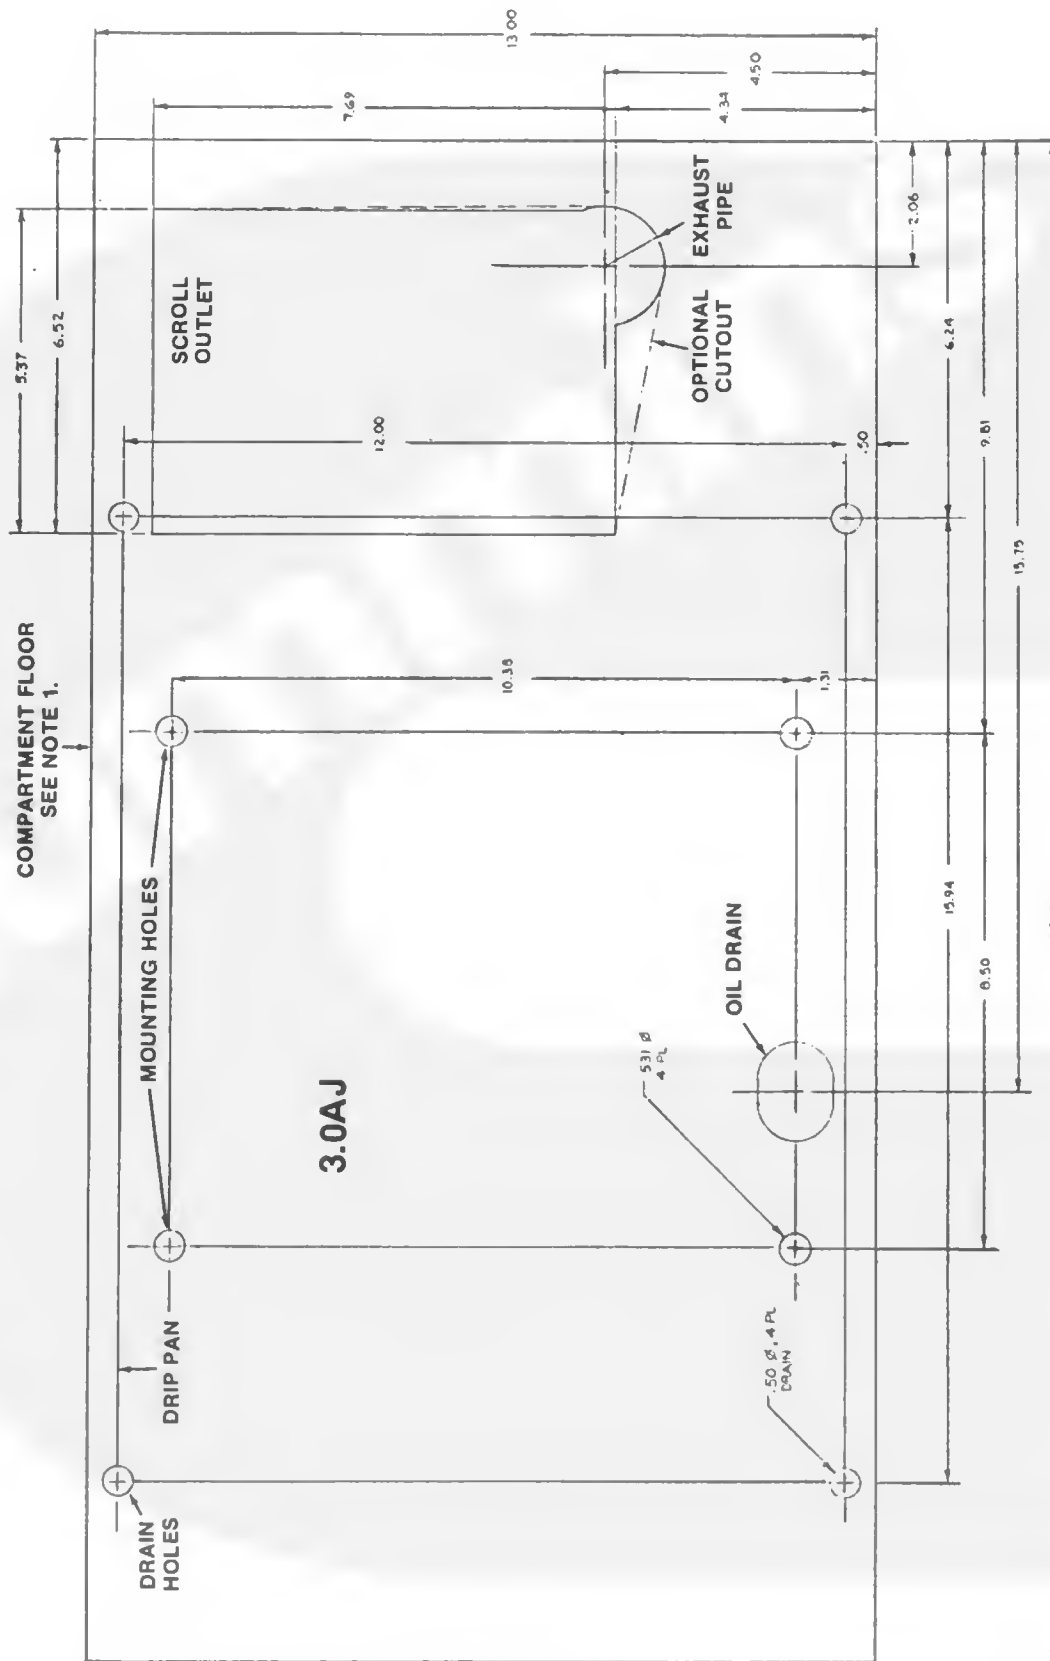

FIGURE 1. TYPICAL INSTALLATION COMPARTMENT SIZE AND MINIMUM DIMENSIONS
The area in the vehicle for the electric generating set must be large enough for the compartment, with specified minimum clearance between the electric generating set and compartment walls or ceiling (and acoustical material, if used). See Figure 1.
3. See Figure 1 for minimum clearances and compartment size.
Insulation must not reduce the minimum clearances as specified in Figure 1 to meet ANSI 198.1 AND CSA #946 temperature rise requirements for recreational vehicles.